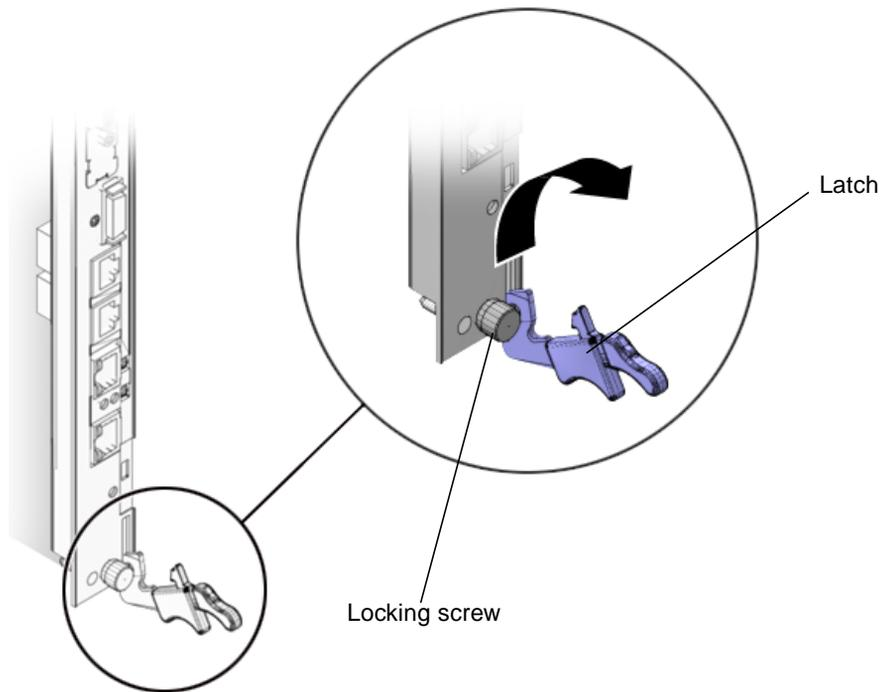

FIGURE 2-2 Injector/Ejector Latch and Locking Screw
5. **Prepare the module by loosening the locking screws and opening the injector/ejector latches at the top and bottom of the module (FIGURE 2-2).**